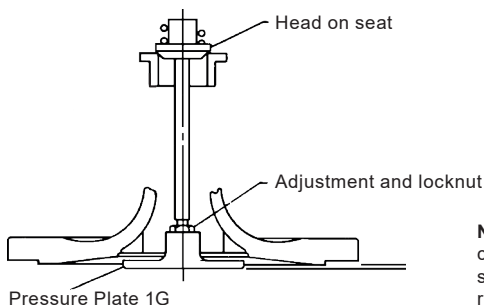

Fig. 3
1. Unscrew copper tubing connection (G).
8. Make certain pressure plate (1G) is set properly. (Refer to Fig. 3)